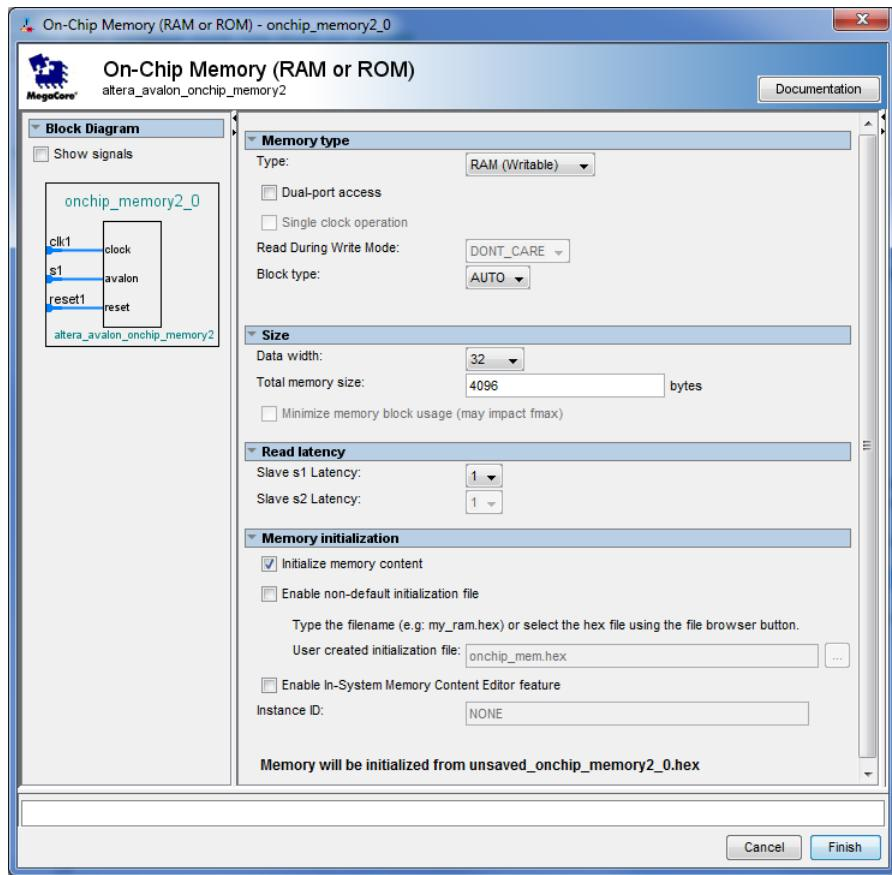

Figure 8. Define the on-chip memory.
- In the On-Chip Memory Configuration Wizard window, shown in Figure 8, ensure that the **Data width** is set to 32 bits and the **Total memory size** to 4K bytes (4096 bytes)